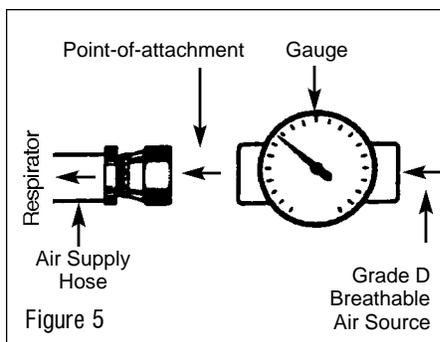

Figure 5
12. Adjust the air pressure at the point-of-attachment (Figure 5) to within the approved pressure range. See the Air Pressure section on the front page.